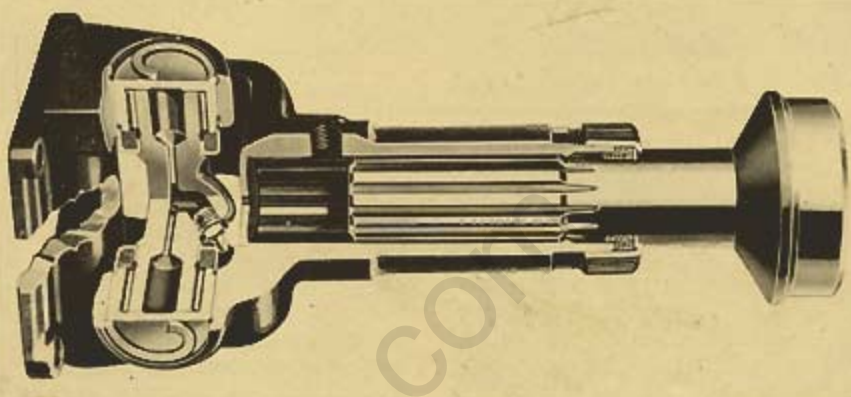

Figure 1
The "Spicer" shaft assembly is readily identified by (1) the lubricator fitting in each journal cross, (2) snap rings used to retain all journal cross bearings, and (3) the nearly square universal joint flanges and flange yokes. Figure 1 shows the sleeve yoke or slip joint end of a "Spicer" shaft assembly.
Chassis grease should not be used to lubricate the "Spicer" cross bearings. As you will note in figure 1, the journal cross has a chamber in its center with drilled passages leading to a reservoir in each trunnion arm. The lubricating oil is forced by centrifugal action from the central chamber to the reservoirs and then to the needle bearings. If chassis grease is used as a lubricant, the passages may become clogged or restricted which may result in bearing failure.